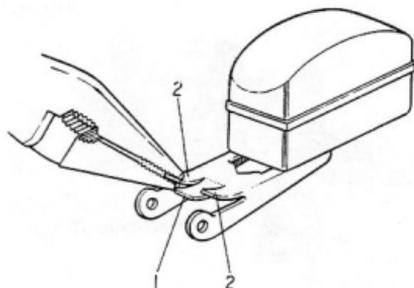

Fig.5-22 Float Level Adjustment X4985
To obtain a correct clearance, bend the tab at (1) in figure 5-22.
To obtain a correct clearance, bend the float tabs at (2) in figure 5-22.